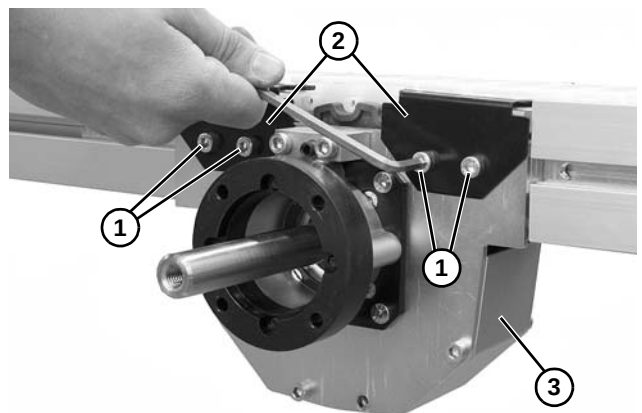

Figure 86
4. Remove four socket head screws (**Figure 86, item 1**) securing belt hold down tabs (**Figure 86, item 2**) to drive assembly (**Figure 86, item 3**).